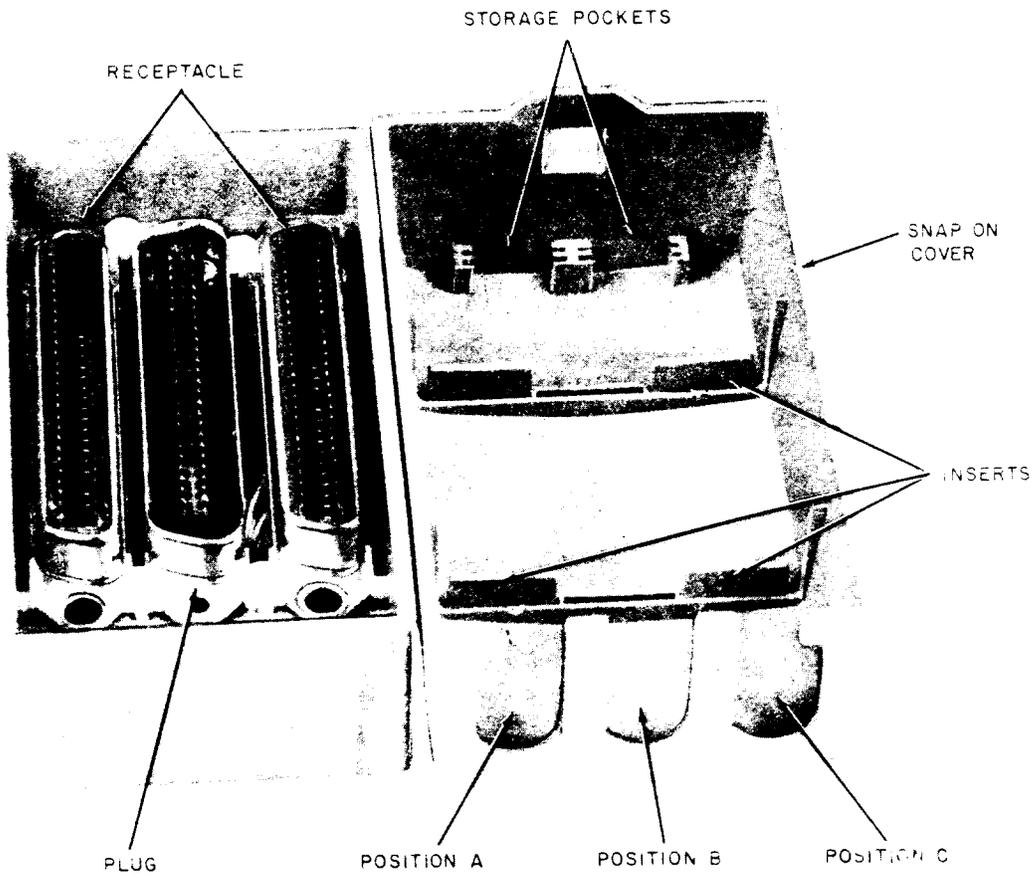

Fig. 21—KS-19252, List 1 3-Way Bridging Adapter (Current Model)
- (1) The List 1 (C-P-C) adapter is arranged to accommodate two low hoods and one high hood. Four inserts are used and are placed in the outside pocket positions (A and C) of the cover (Fig. 21).
- (2) To convert a List 1 adapter to accommodate two high hoods, remove the inserts from A or C position and place in cover storage pocket.
- (3) In any assembly where a high hood is used, the inserts are not used in that receptacle position and should remain in the storage pocket.